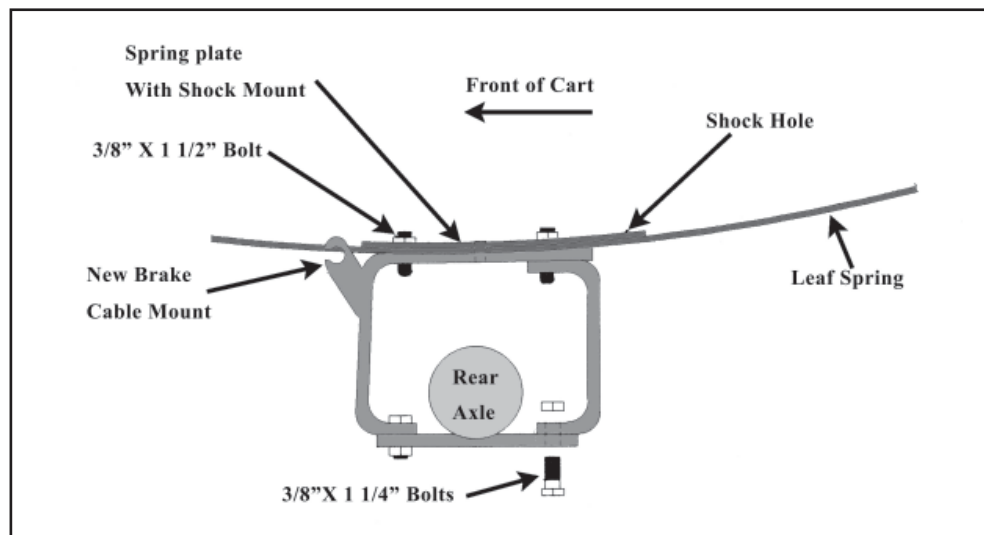

Figure 2 - Rear Suspension
5. Assemble rear spring risers (Items D&E). Place the axle end through the risers, as shown in figure 2. Bolt the bottom of the risers to the original axle assembly mounting holes for the leaf springs, using the supplied nuts and bolts (Item F). Leave all hardware loose